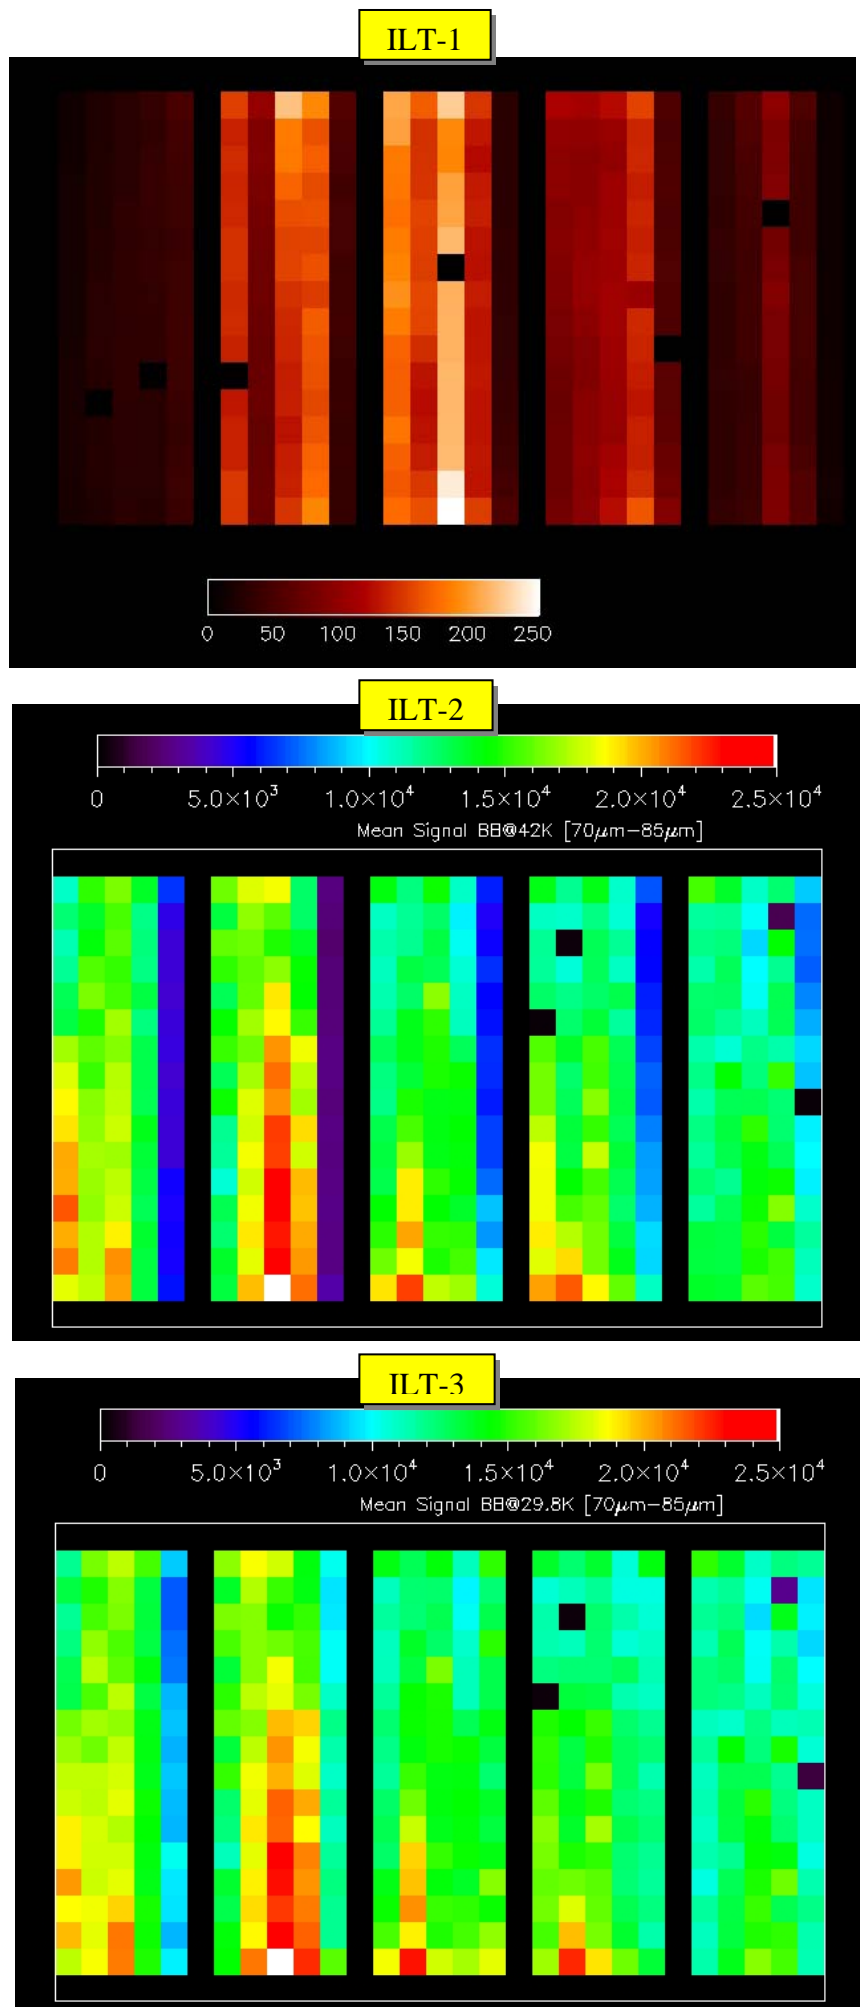

Fig.4: Illumination of the blue spectrometer array in a sequence from ILT-1 (top) to ILT-2 (middle) to ILT-3 (bottom)
- *Optical alignment*: the additional repair after ILT-2 was 100% successful! All 25 spatial pixels (spaxels) of the spectrometer are evenly illuminated now (Figures 4 and 5).